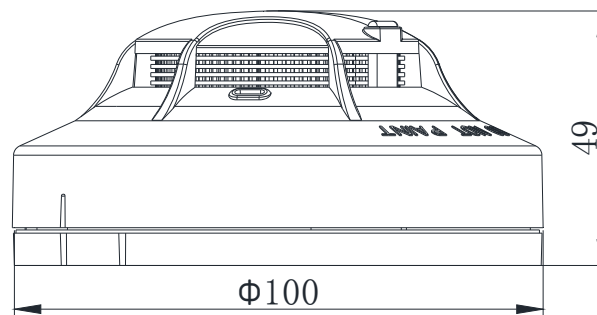
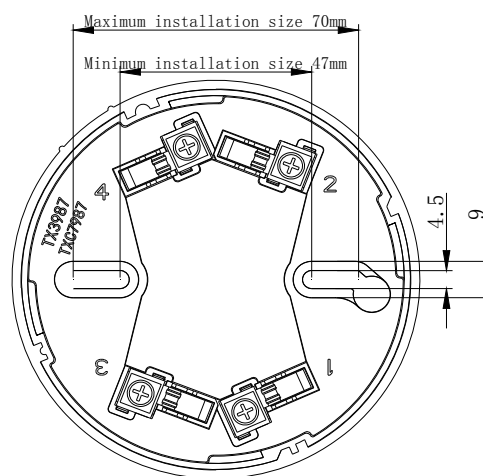

Fig 1 TXC7101 Appearance
Fig 2 TXC7987 Mounting Dimension
- 4.1 The structure and dimension are shown in Fig 1 & Fig 2